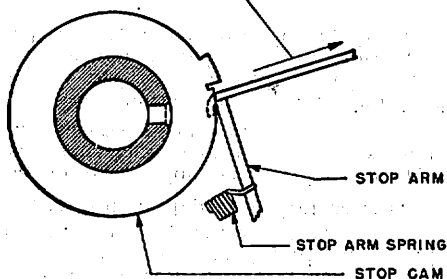

Fig. 5
4.06 Stop arm spring tension on machines equipped with a-c synchronous motors or d-c motors shall be Min. 5 oz., Max. 7 oz., measured as in Fig. 5(A).
4.07 Stop arm spring tension on units equipped with a-c series motors and with 83844M2 set of parts for a-c governor spark protection, including 4703M spring, shall be Min. 1 oz., Max. 1-3/4 oz., measured as in Fig. 5(B).